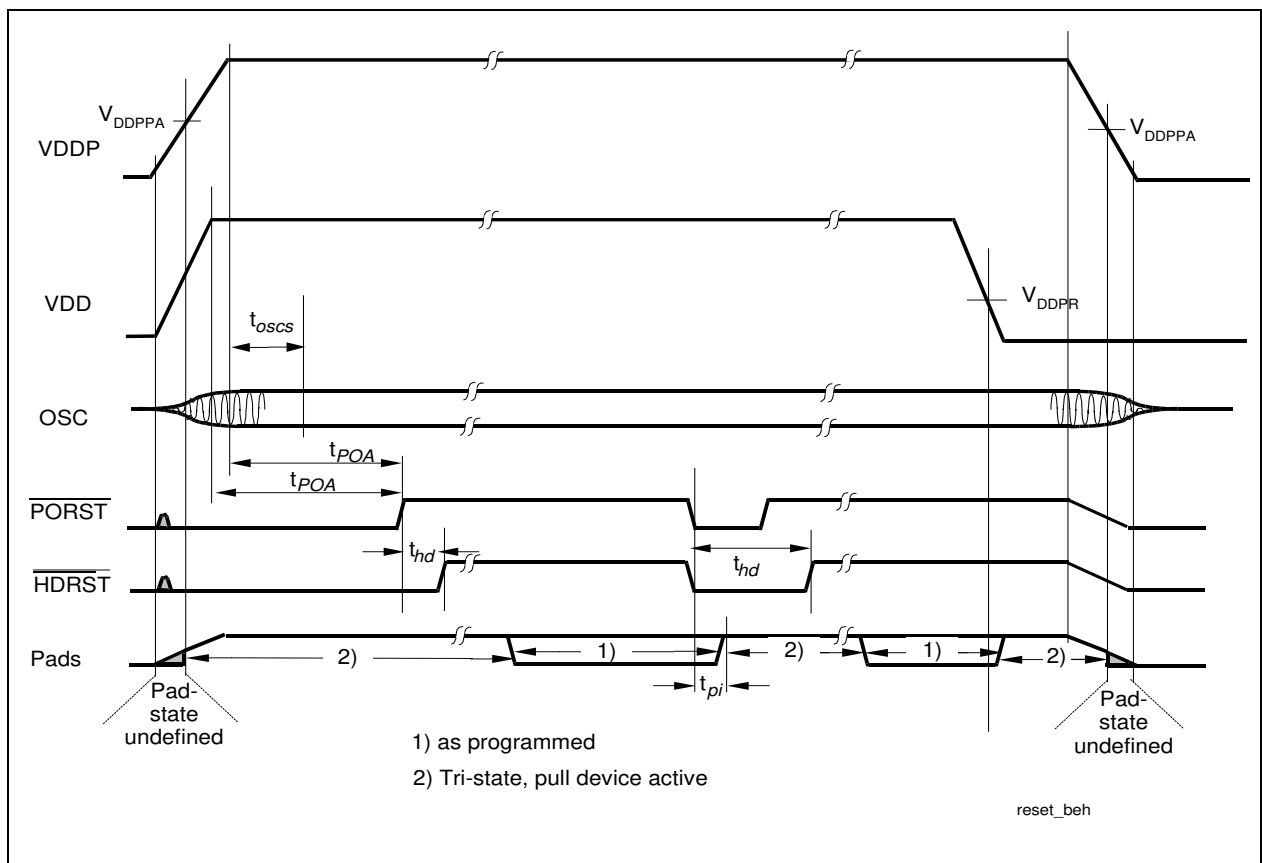

Figure 4-11 Power, Pad and Reset Timing
**Figure 4-11** provides the characteristics of the output rise/fall times in the TC1161/TC1162.